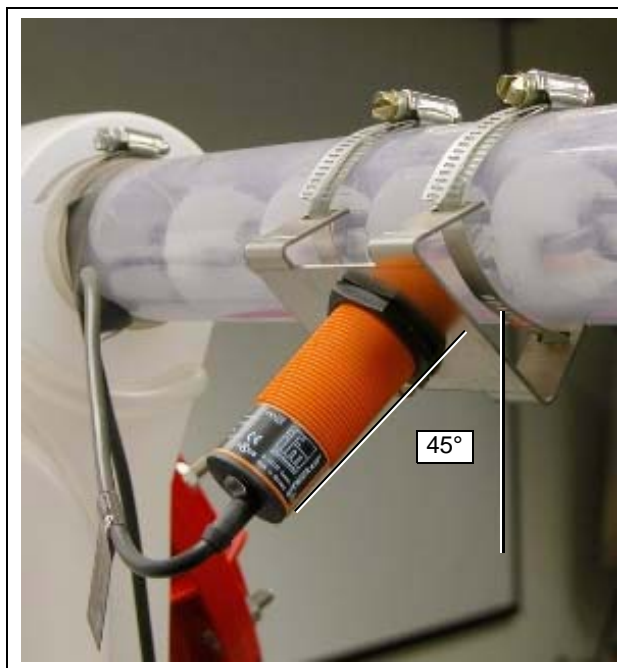

Figure 13K
1. Mount proximity switch to a CLEAR section of tubing located after the last drop tube and before the drive unit. (See Figure 13K.)
2. Attach the proximity switch mounting bracket to the clear tubing using the hose clamps provided. Adjust the bracket so the proximity switch is mounted at a 45° angle. (See Figure 13K.)